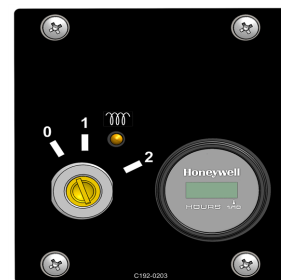

Figure 11 - Control Panel
2. Insert the ignition key in the control panel and turn to position 1 (Figure 11).
3. Confirm that the heater LED comes on (Figure 11).
5. Turn the ignition key to the start position (2) (Figure 11).